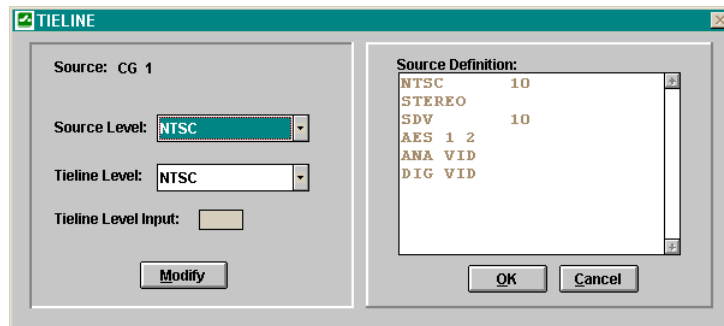

Figure 30 TieLine Source Definition Window
3. If one or more tielines have been configured, the **Tieline** button will be enabled. Clicking this button will open the TIELINE SOURCE DEFINITION window (Figure 30) which will allow the use of a tieline input for a **Selected Level**: